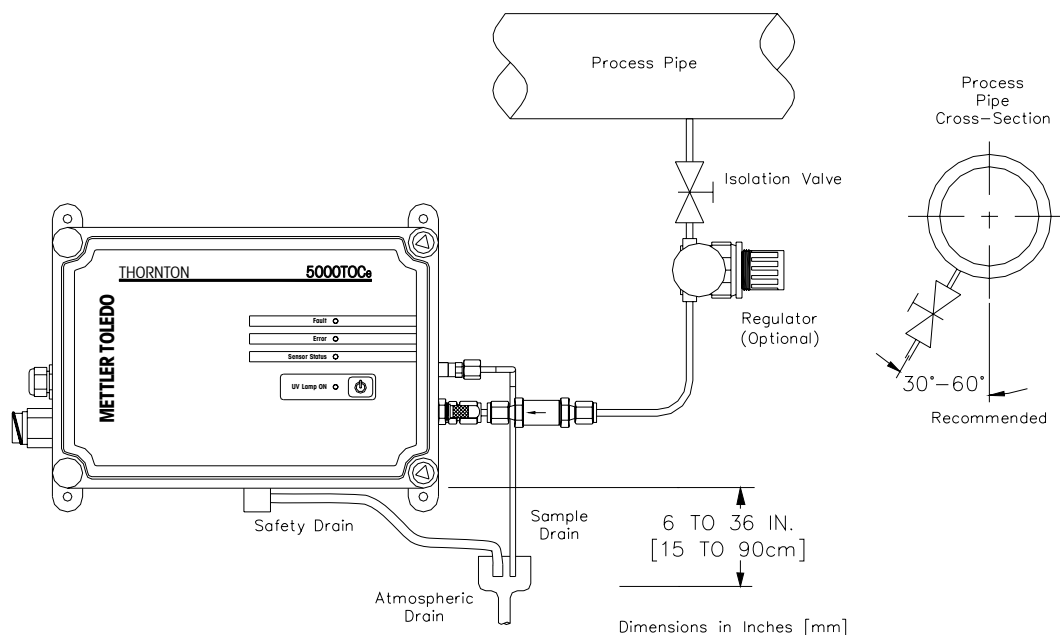

Figure 2. Sample 5000TOCe Sensor Installation
- Run the safety drain tubing to an atmospheric drain located close to the sensor. See Figure 2, for dimensional detail of the drain location. **Take note of the 6" (15cm) to 36" (90cm) drain requirement.**
Important! The stainless steel drain tube must be fed to a nearby standpipe or drain sump to create an air gap and prevent siphoning. Installation must adhere to the dimensions shown in Figure 2 for proper sensor operation.
For installations with process pressure above 85 psig (5.9 bar), the High Pressure Regulator (p/n 58 091 552) is **required** (see Figure 2). Installation instructions are supplied with the High Pressure Regulator.